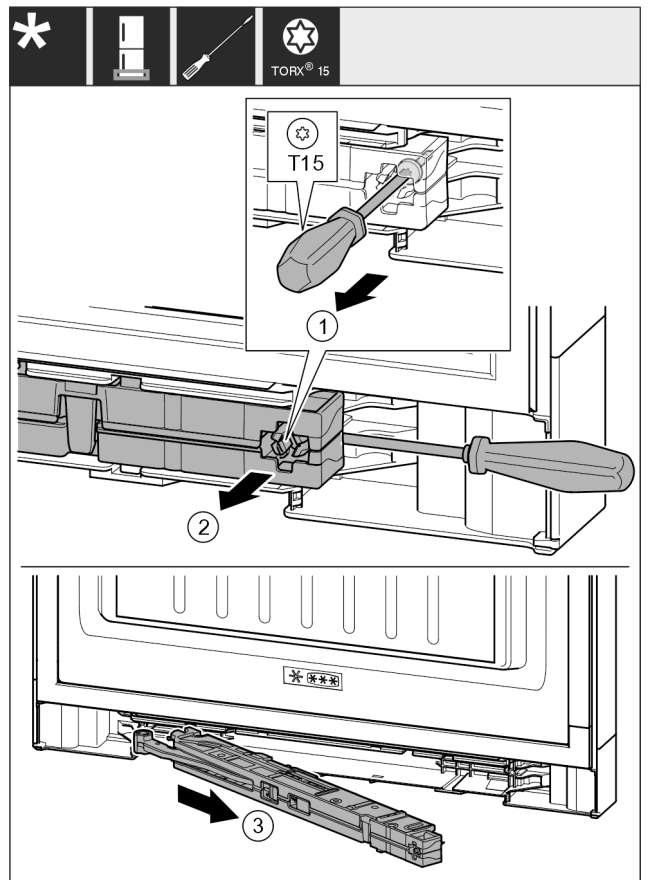

Fig. 18
- ▶ Use screwdriver to loosen the screw Fig. 18 (1) on the closing damper unit by 14 mm.
- ▶ Lever the closing damper unit Fig. 18 (2) forwards on the handle side using a screwdriver.
- ▶ Pull out the closing damper unit Fig. 18 (3).